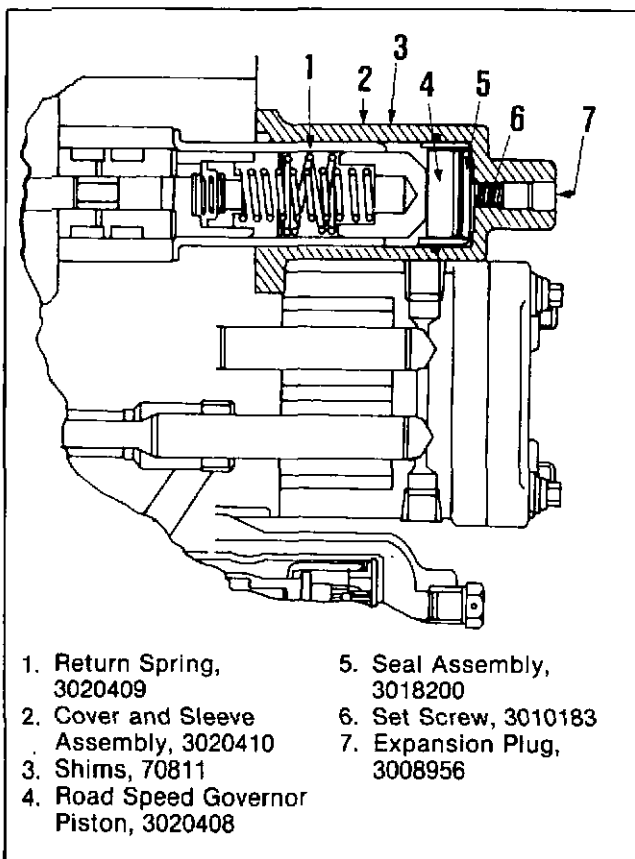

Fig. 10-45, (F5380). Road speed governor cross section Part No. 3020411 on a VS fuel pump.
The road speed governor must be adjusted before the lower governor, Fig. 10-45.
5. Check the throttle leakage with the throttle leakage flow meter, if the test stand is so equipped. For another method, use a 200 cc container to hold the fuel delivery for one minute. Do not keep the test stand at this setting any longer than necessary. This will keep the fuel temperature within the limits, Fig. 10-45.